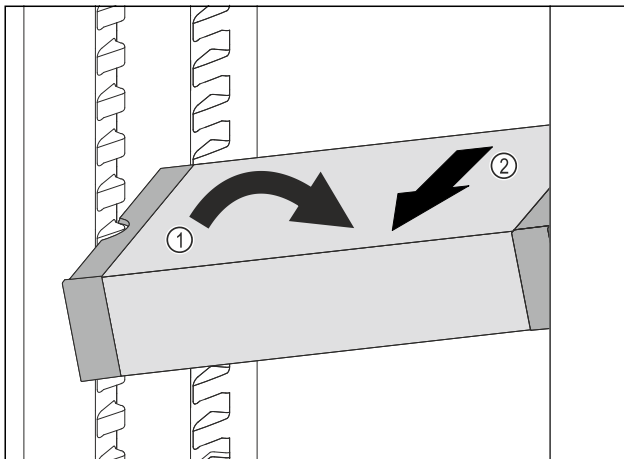

Fig. 85
- Set VarioSafe in refrigerator compartment at an angle. Fig. 85 (1)
- Take VarioSafe out to the front. Fig. 85 (2)